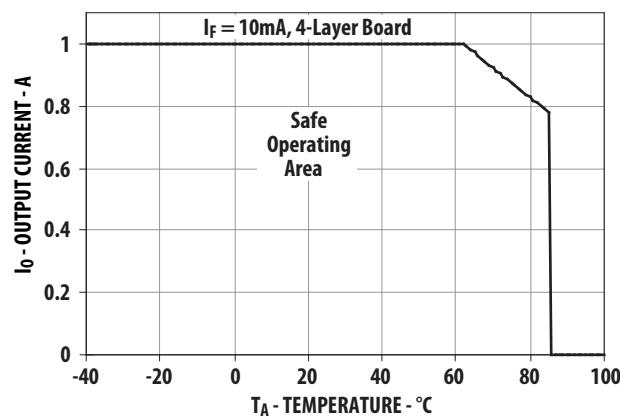

Figure 1. Maximum Output Current Rating vs Ambient Temperature
- For derating, refer to Figure 1, 2, 3 and 4.
Derating curves are shown in Figures 1, 2, 3 and 4, specifying the maximum output current allowable for a given ambient temperature. The maximum allowable output current and power dissipation are related by the expression  $R_{ss}=P_o(\max)/(I_o(\max))^2$  from which  $R_{ss}$  can be calculated. Staying within the safe area assures that the steady state MOSFET junction temperature remains less than 125°C.